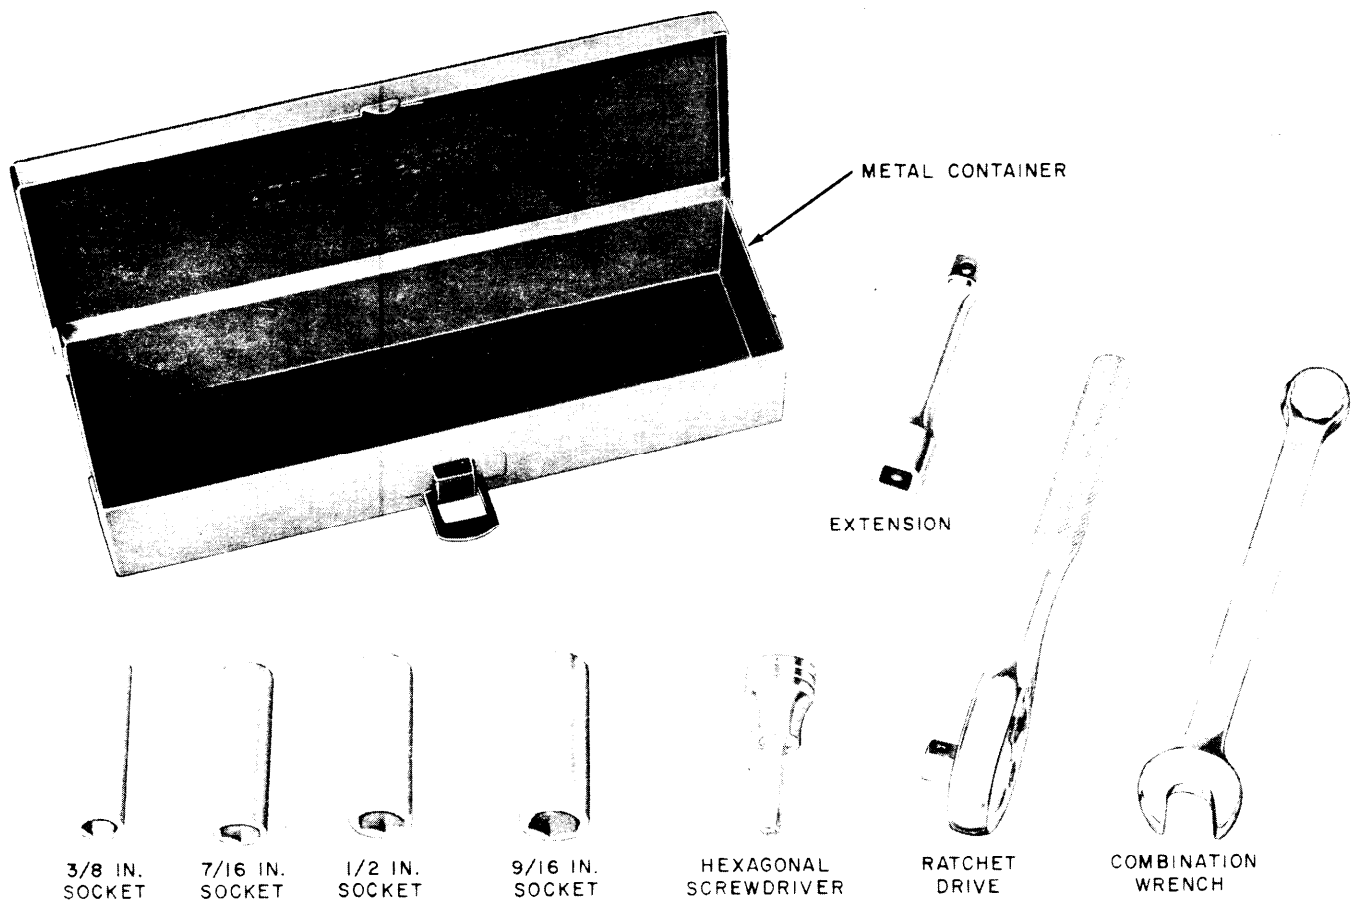

Fig. 1—D Wrench Kit
1.02 The D Wrench Kit (Fig. 1) is provided for use in assembling splice closures, tightening B and C Sealing Clamps, and tightening apparatus case V-band clamps.